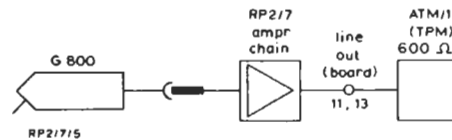

Fig. 5. Test Circuit 2
*(c) Overall Frequency Response (Figs. 5 and 6)*
1. Set up test circuit 2. (Fig. 5.)
*(g) Noise Volume (Fig. 5)*